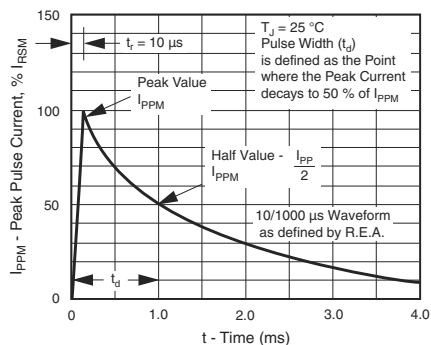
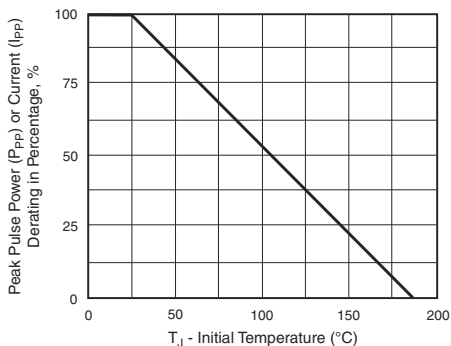

Figure 3. Pulse Waveform
Figure 2. Pulse Power or Current vs. Initial Junction Temperature
(1) VBR measured after IT applied for 300 µs, IT = square wave pulse or equivalent
(2) Surge current waveform per fig. 3 and derated per fig. 2
(3) All terms and symbols are consistent with ANSI/IEEE C62.35